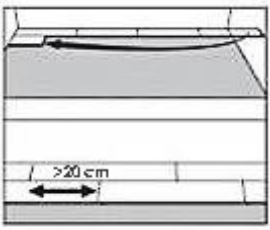

Figure 2
- Begin the second row with the cut piece from the first row (**Figure 2**). If the cut piece is shorter than 8 in (20 cm), do not use it. Instead, begin with a new plank that is at least 8 in (20 cm) in length and allows 8 in (20 cm) between the end joints on the adjacent planks.